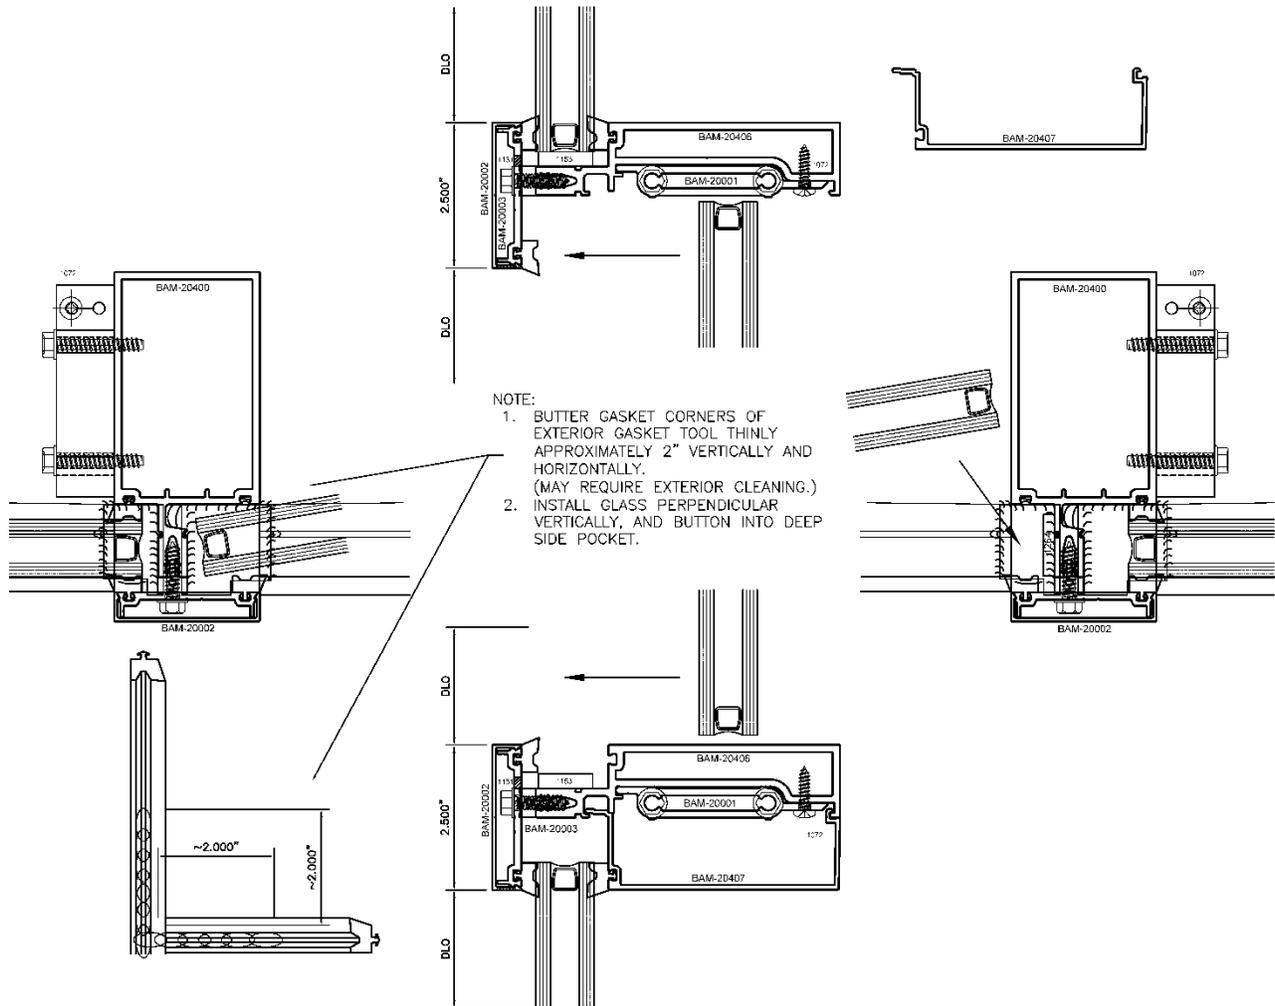

FIGURE Z.1
- Butter gasket corners at the exterior approximately 2" vertical and 2" Horizontal. (FIGURE Z.1)